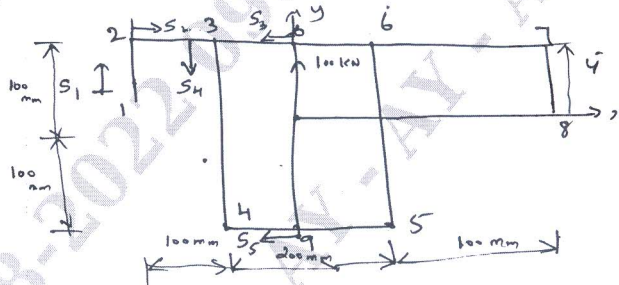

Fig.Q3
- 3 Determine the shear flow distribution in the beam shown in Fig.Q3 When it is subjected to a shear load in its vertical plane of symmetry. The thickness of the walls of the section is 2mm throughout.